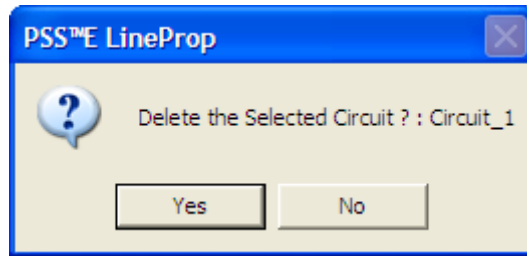

Figure 1-25. Verify Circuit to Delete
2. You are asked to verify that the indicated circuit is to be deleted, as illustrated in Figure 1-25. A response of Yes will remove the circuit from the Corridor View.